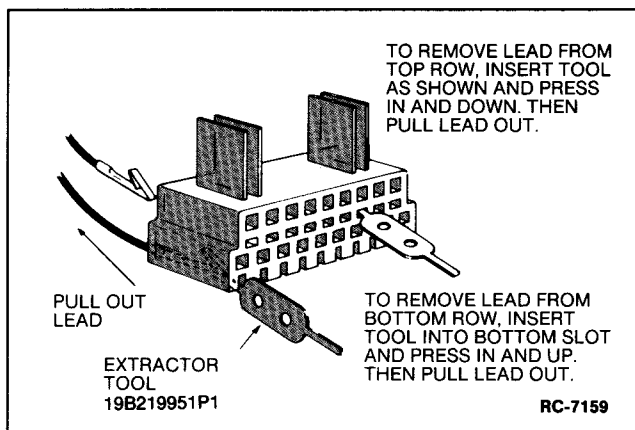

Figure 3 - Using Extraction Tool
2. Tape the plug(s) and retaining hook. If it is necessary to disassemble the 19-pin plug(s) to run the cable, use the extractor tool as shown in Figure 3. Mark the plugs for identification, and write down the wire colors and hole numbers as the wires are removed from the plug(s).